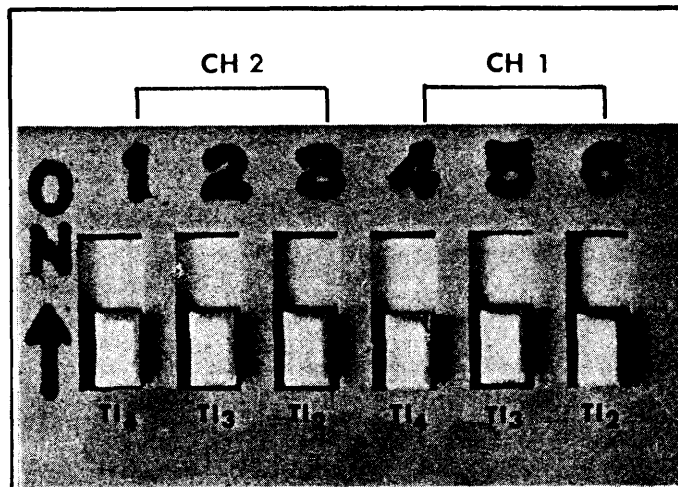

Figure 11 - Output Switch
**NOTE:** To simplify understanding and programming the output switch think of the switch as two switches: Positions #1, #2 and #3 are Channel 2; Positions #4, #5 and #6 are Channel 1. Always program this switch in two steps - Channel 2 followed by Channel 1. (See Figure 11).
Using the program switch (see Figure 11) the FET-2 can be set up to apply any one of seven possible bead patterns. Because the two output channels can be programmed independently the timing pattern for one channel can differ from the pattern for the other channel.